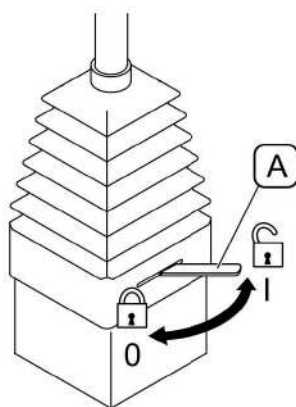

FIG. 4.25A Lever control interlock a neutral position
Control lever interlock (FIG. 4.25A) in neutral position (central) prevents operating loader and so protects hydraulic system against accidental activation. To unlock control lever move interlock (A) to extreme left setting (*looking from position of driver*), to engage interlock move to the right.